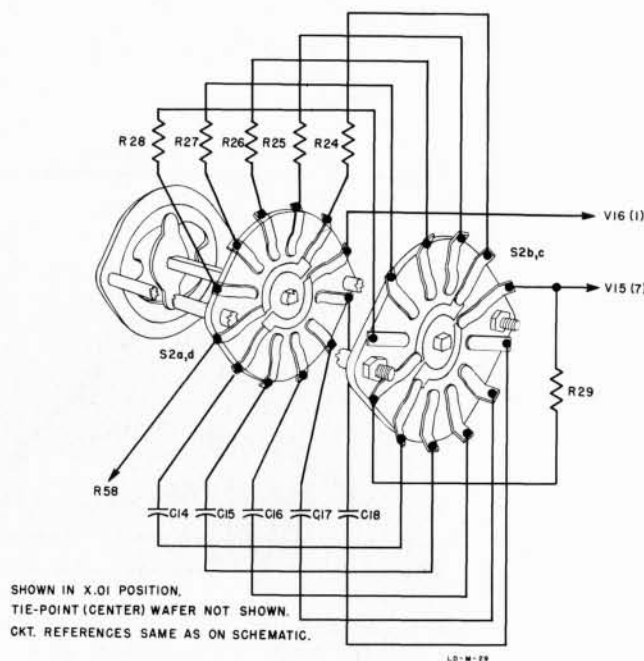

Figure 4-3. Rear View of S2 Range Switch
8) Check the calibration of the "X1" range. The output frequency should be within  $\pm 2\%$  of the dial reading over the entire range. Adjust by substituting different resistor values for R26. The location of R26 is shown in Figure 4-3.